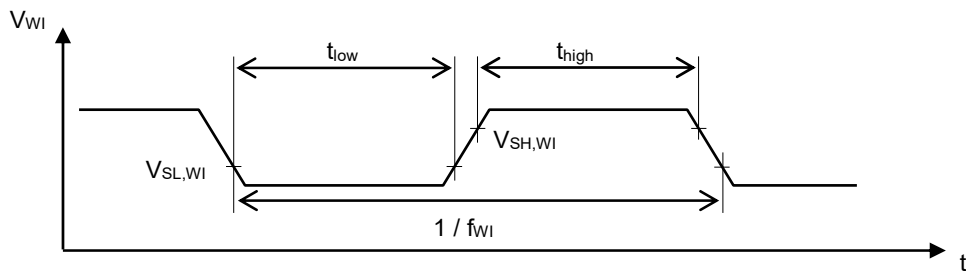

Figure 6
- *2. When inputting a rising edge that satisfies the condition of Figure 6 to the WI pin, the watchdog timer detects a trigger.
The signal input from the monitored object by the watchdog timer should satisfy the condition of Figure 6.